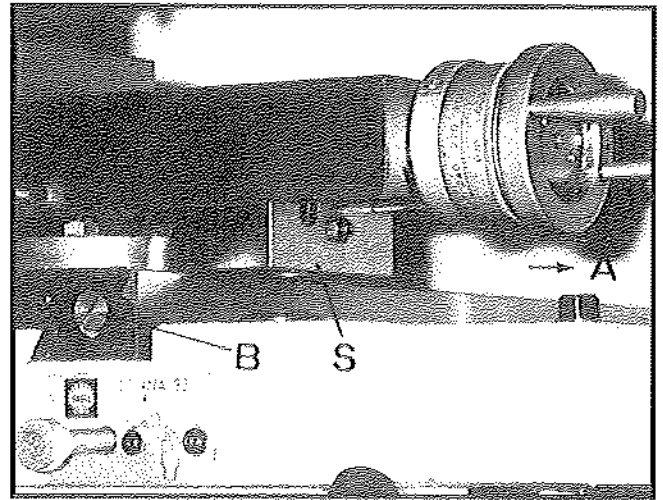

Fig.24
To adjust the cross-slide, slacken the rear screw (A) and tighten the front screw (B) (Fig.24), making only a slight alteration with constant checking for smooth action.